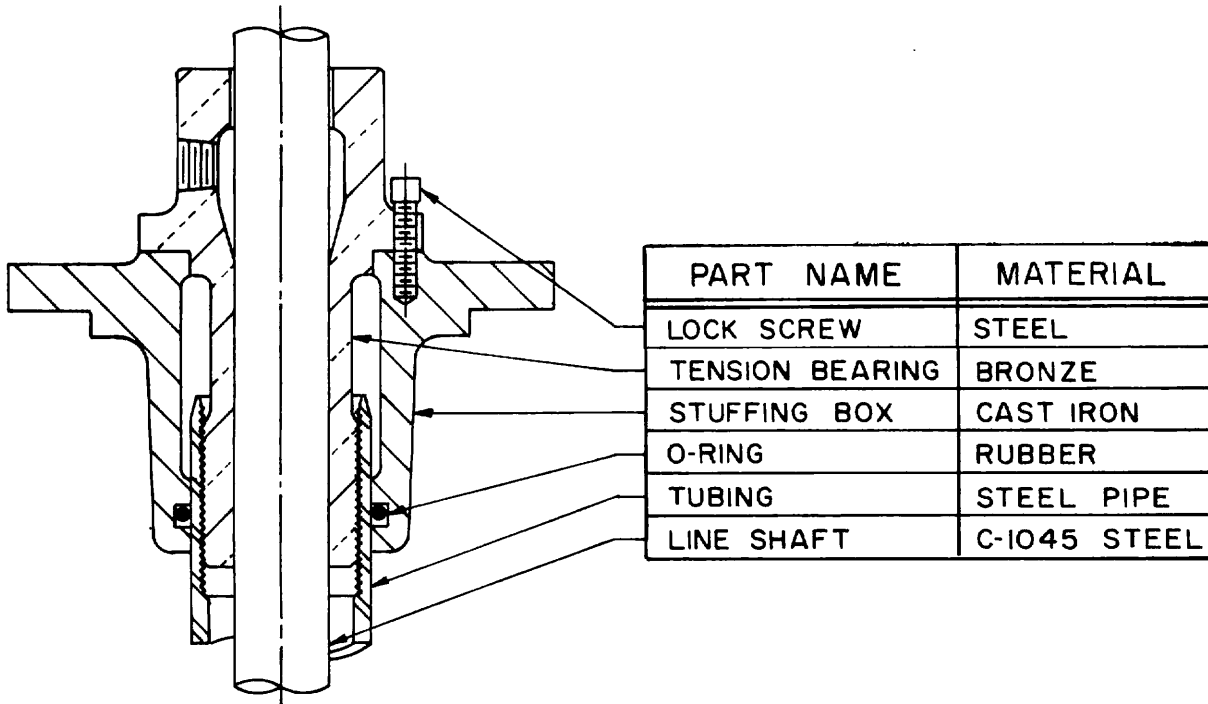

FIG. 8. — STUFFING BOX ASSEMBLY
1. Remove the lock screw and the o-ring and thoroughly clean the stuffing box including the o-ring groove. Remove any nicks or burrs from the upper and lower mounting faces and male register with a fine flat file. Re-install and lightly oil the exposed surface of the o-ring. SEE FIG. 8.